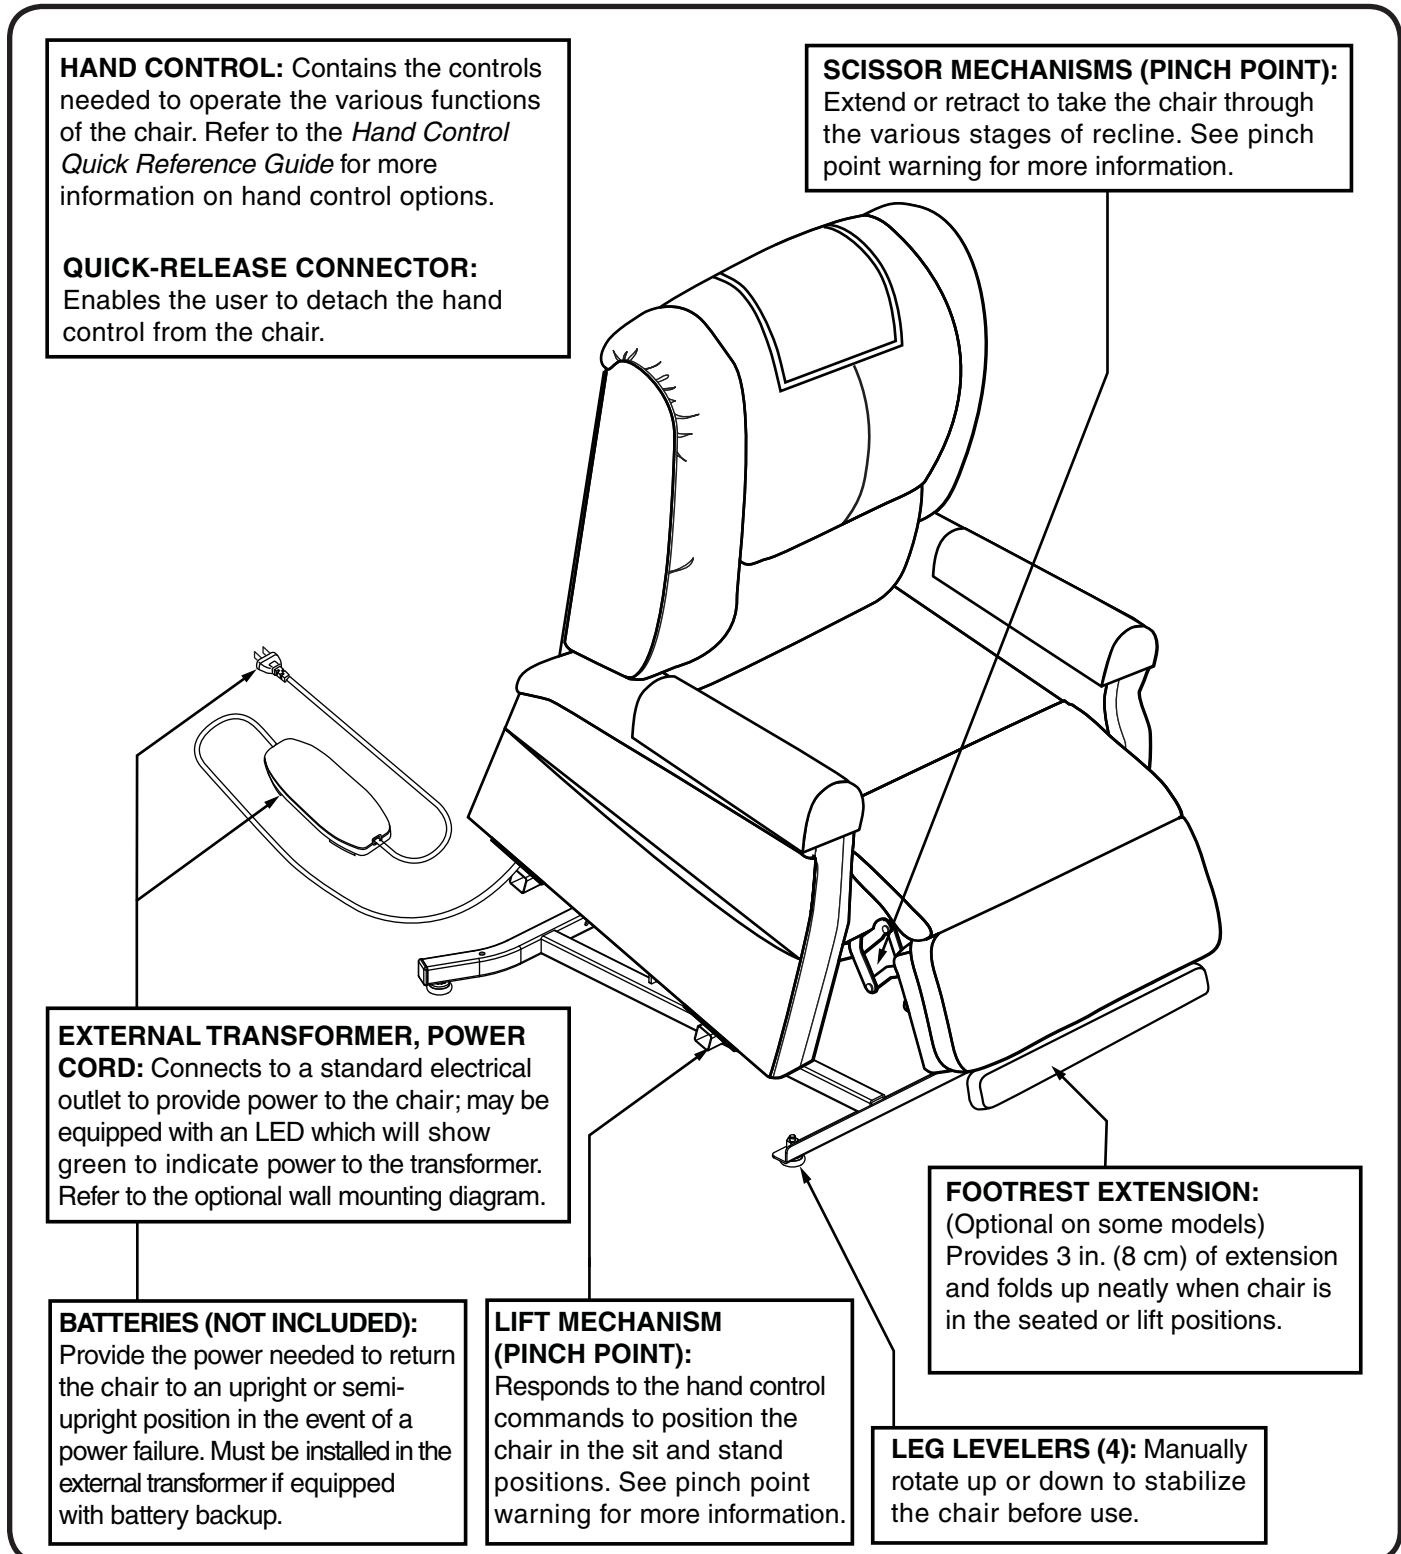

Figure 3.1 Chair Main Components
The scissor and lift mechanisms are labeled as pinch/crush point hazards on your chair. Keep clear of these areas and make sure the path of motion is unobstructed. See **figure 3.1** for pinch/crush point locations.
Chairs are equipped with several frame and electrical components. Typically, frame (or body) components include a removable back pad\*, removable chaise pad\*, footrest, leg levelers, a lift mechanism, and scissor mechanisms. The electrical components include the external transformer, hand control, and batteries‡ (not included). Refer to **figure 3.1** and note that the illustrations and options listed may not reflect the type of chair that you own.
2. Adjust the leg levelers to stabilize the chair (**fig. 3.1**).